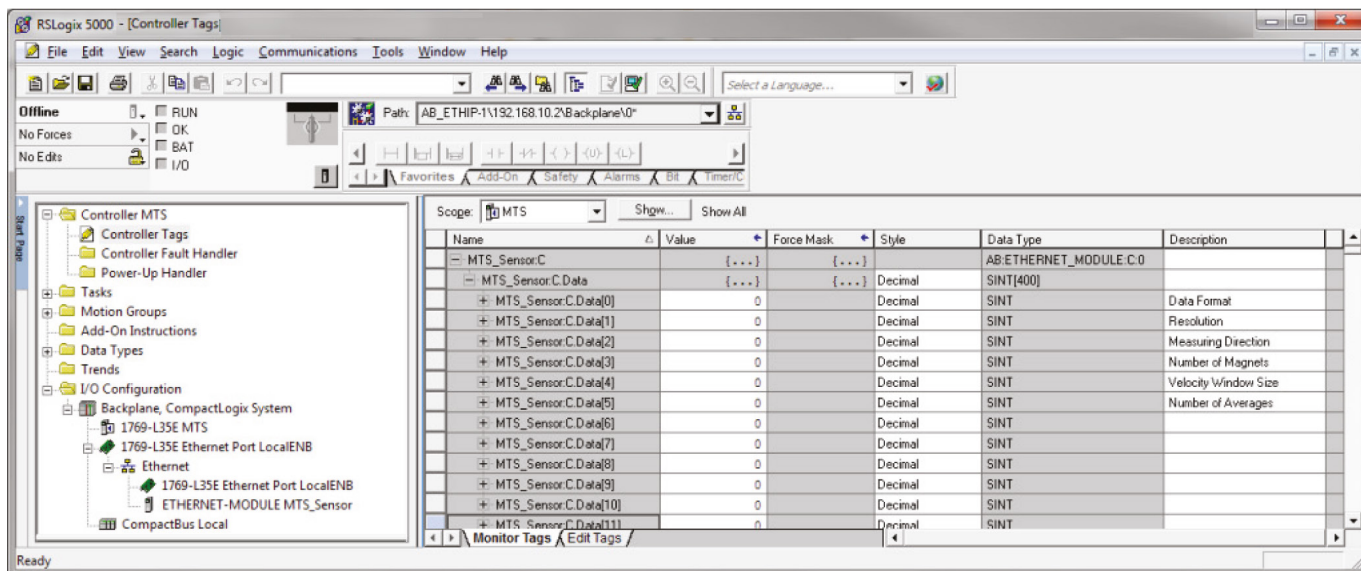

Fig. 47: Device control tags
7.6.1 In the 'I/O configuration tree', click to open the 'Controller Tags' directory. The controller tag table displays in the left pane (Fig. 47). The description column fields will be blank by default.